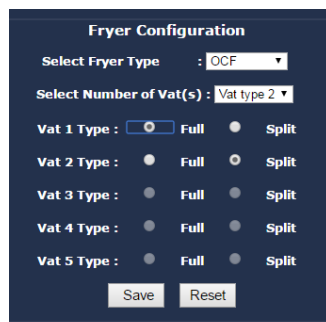
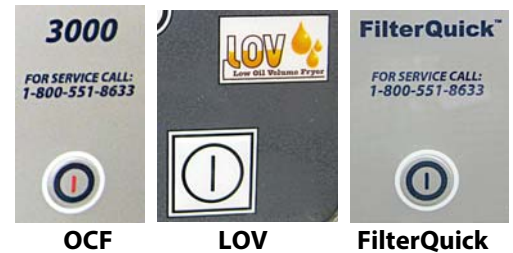

Figure 3
Figure 4
10. Under Fryer Configuration in the middle of the screen select the fryer type from the pull down menu (see Figure 3). Choose OCF, LOV or FilterQuick. The OCF will display 3000 on the controller; The LOV will display LOV on the controller; The FilterQuick will display FilterQuick on the controller (see Figure 4).
11. Select the number of vats from the pull down menu (see Figure 3).
12. Select the vat type of each vat either Full or Split (see Figure 3). The Split frypot has a divider down the middle (see Figure 5).
13. When the vat types are complete Click on Save (see Figure 3).